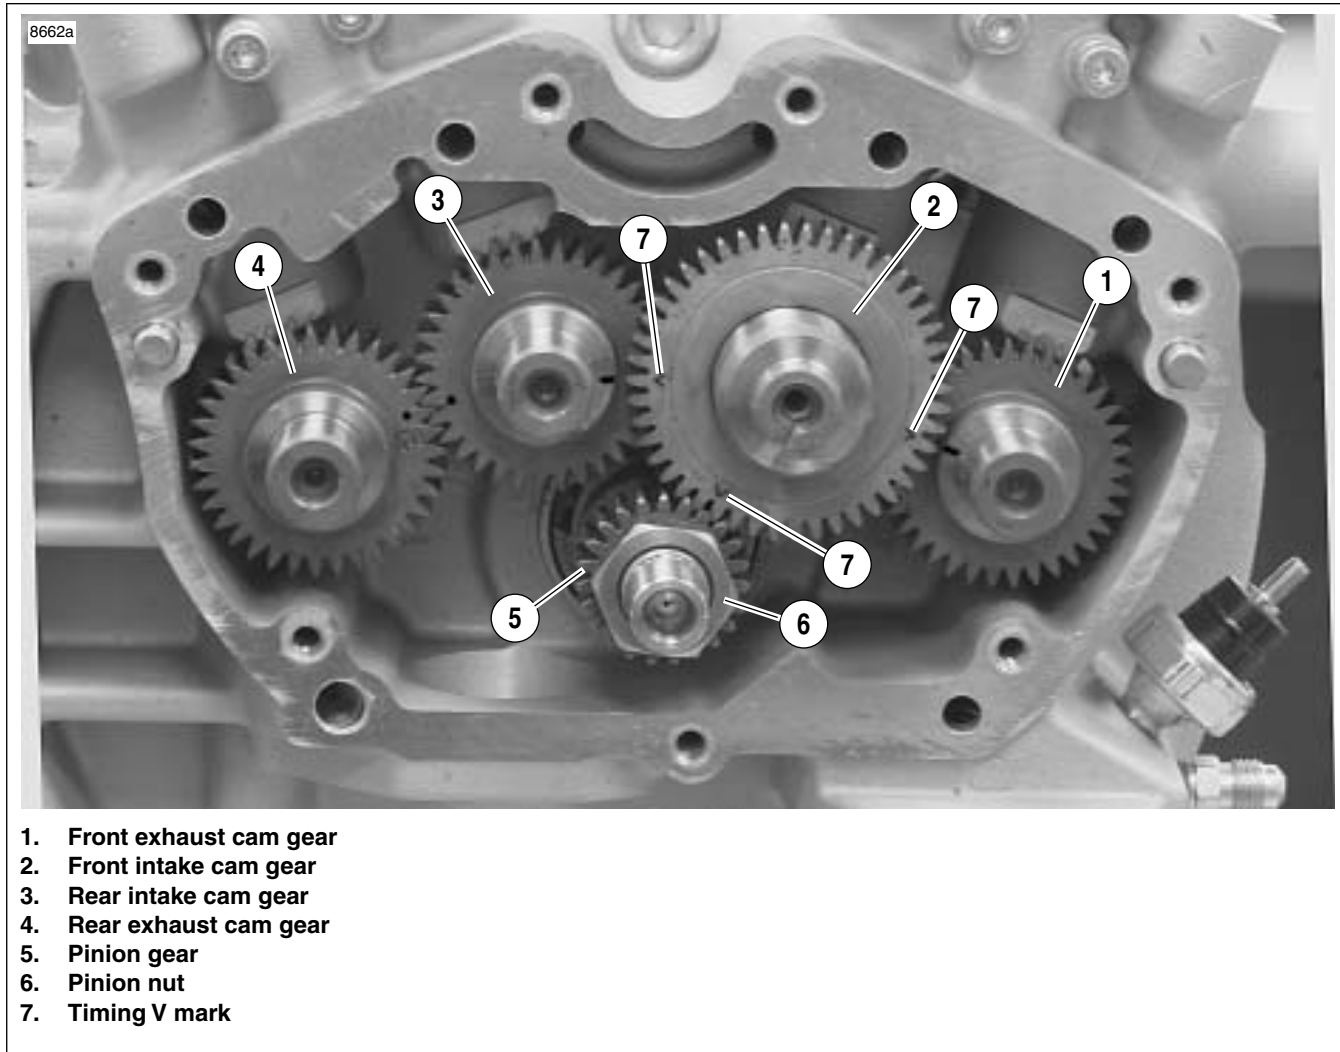

Figure 3-125. Cam and Pinion Gear Location and Timing Mark Indexing
8. See Figure 3-125. Remove cam gears (1, 2, 3 & 4).
See Figure 3-125. The XB9S timing marks are located on the front intake cam assembly (2). Note the "V" marks.